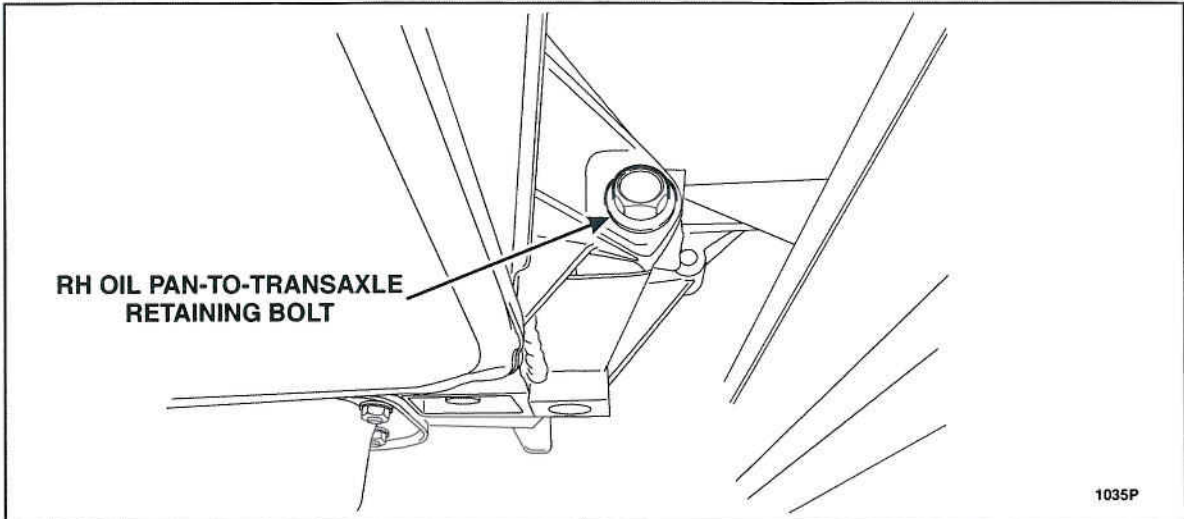

FIGURE 25
53. Remove the RH oil pan-to-transaxle retaining bolt. See Figure 25.
7. Install the RH oil pan-to-transaxle retaining bolt. See Figure 25.